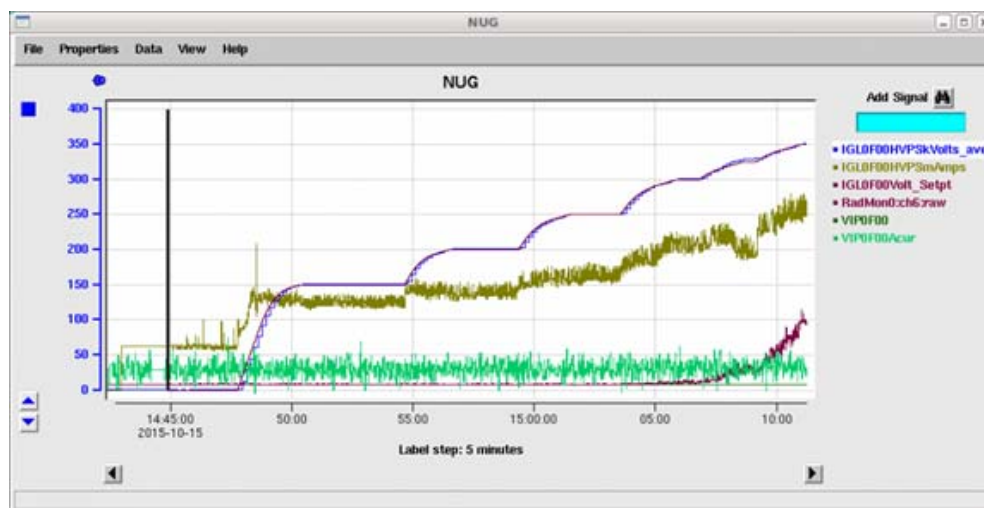

Figure 2: NUG Striptool
5. Click on the **NUG** button in the upper right corner of the screen. This opens the striptool shown in Figure 2, below, which includes values for the voltage requested, voltage output, current output, vacuum, and radiation monitors (small Geiger counters positioned around the gun vacuum chamber).
8. The most relevant signals to observe in the striptool (see Figure 2) during voltage ramp up in the following steps are as follows. *If any of these signals exceeds the limit during the voltage ramp up, contact EGG On-Call immediately.*